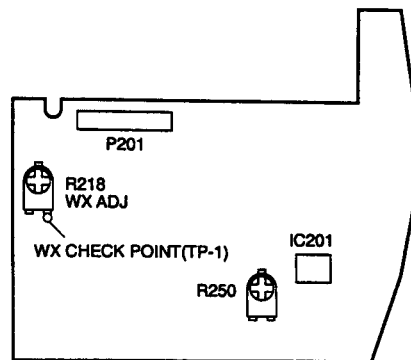

Fig. 5-6 AF PCB
- 3) Connect a frequency counter to TP1 on the AF PCB and adjust R218 to obtain 1050 kHz  $\pm$  5 Hz on the frequency counter. (See Fig. 5-6.)